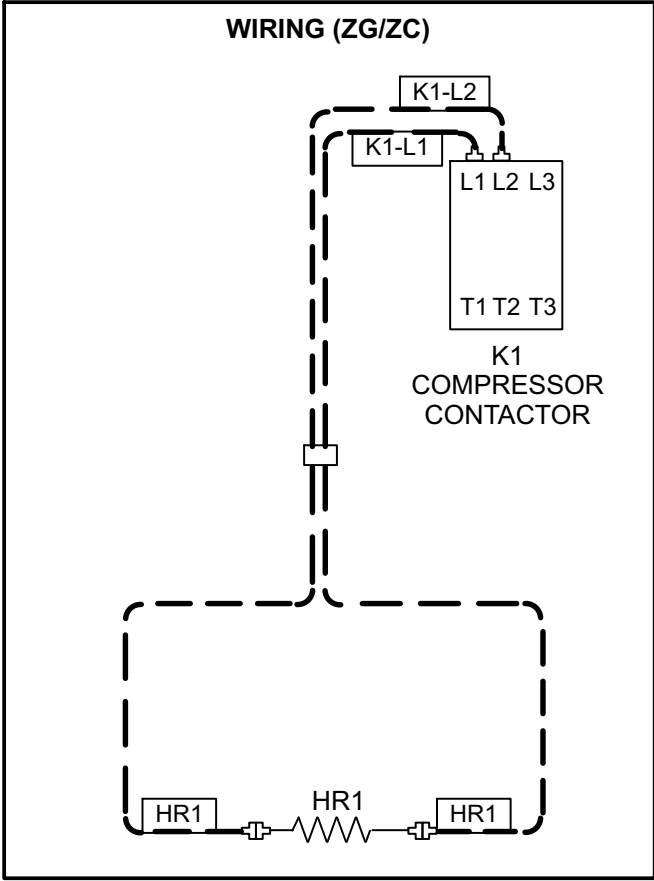

FIGURE 3
- 5- Use markings on wires to connect harness as shown in figure 3. Also refer to unit wiring diagram.